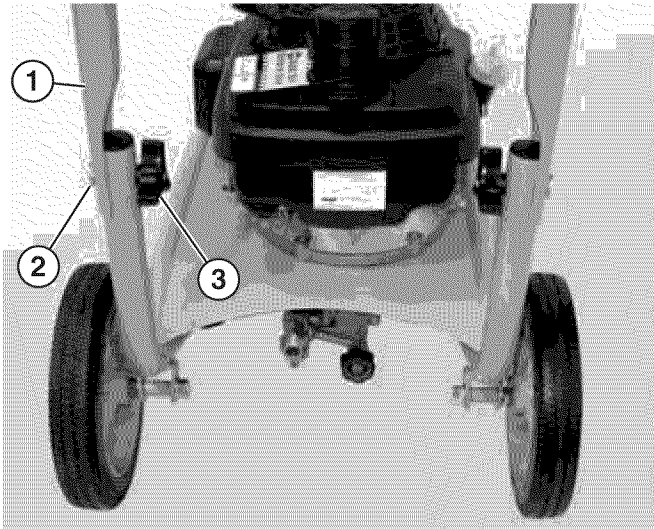

Figure 12 – Installing Upper Handle
10. Install the upper handle to the frame using the handle bolts and knobs (see Figure 12).